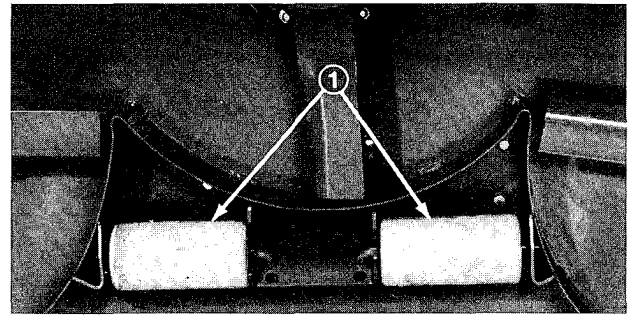

Figure 17
1. Remove cotter pins securing roller shafts to underside of deck (Fig. 17).